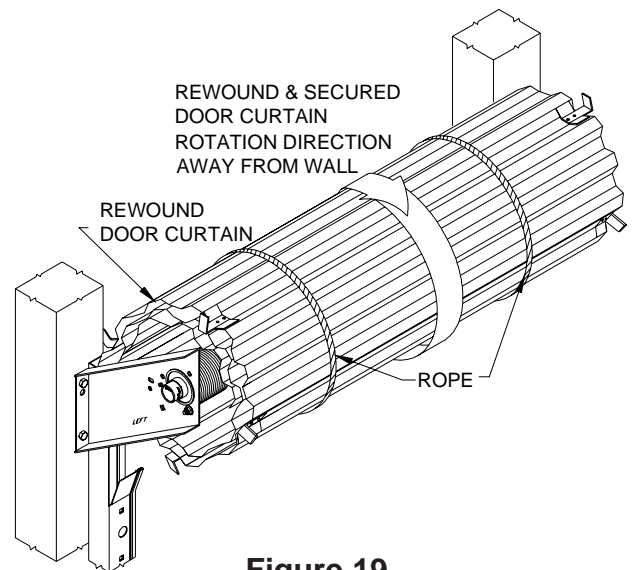

Figure 19.
16.3 Open the door but **DO NOT** allow it to come out of the guides. Strap two ropes **TIGHTLY** around the door curtain and tie the curtain **SECURELY** as it comes out of the guides. See Figure 19.